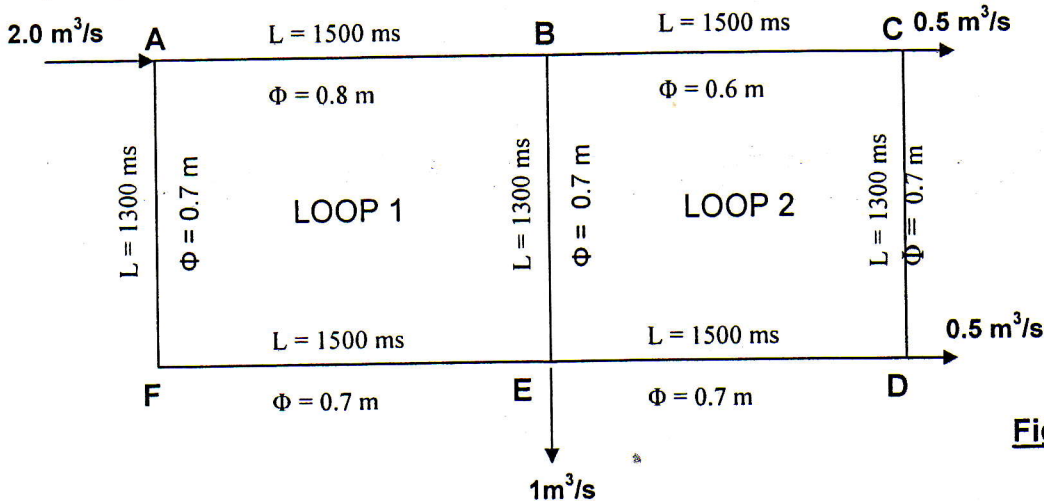

Fig. 1
b) Given the network shown in Fig. 1, the inflow at A, and outflows at C, D and E. Using Hardy Cross method, find the flows in the individual pipes comprising the network (only one trial is required).....[25]